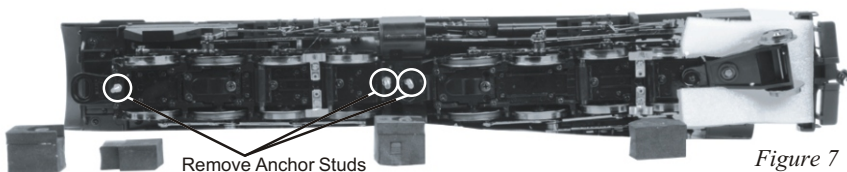

Figure 7
6. Remove the 4 foam packing pieces as shown in Fig 7.
7. Remove the anchor studs from the bottom of the engine chassis. (Fig. 7) The anchor studs should be hand tight and be able to be moved by turning them with your fingers. However, if mechanical assistance is required to remove the anchor studs, using the adjustable pliers to grasp the anchor studs in the center section where the threads do not come in contact with the chassis or the locking nuts, will be helpful in removing the anchor studs.